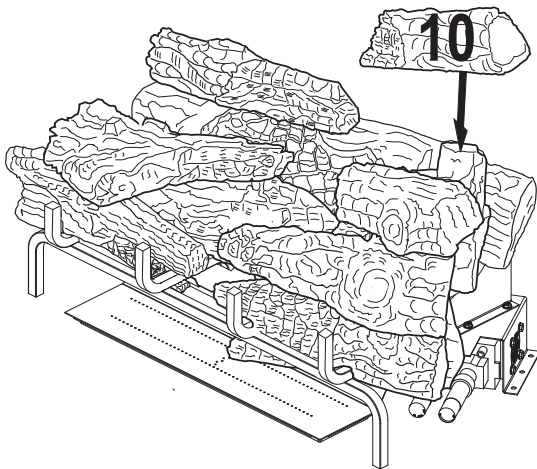

Figure 46 - Installing Log # 10
10. Place the right rear top log (#10) on top of the right rear chunk log (#7) as shown in **Figure 46, Page 24**. Match the rectangular peg on the top of the right rear chunk log (#7) with the rectangular hole on the bottom of the right rear top log (#10).